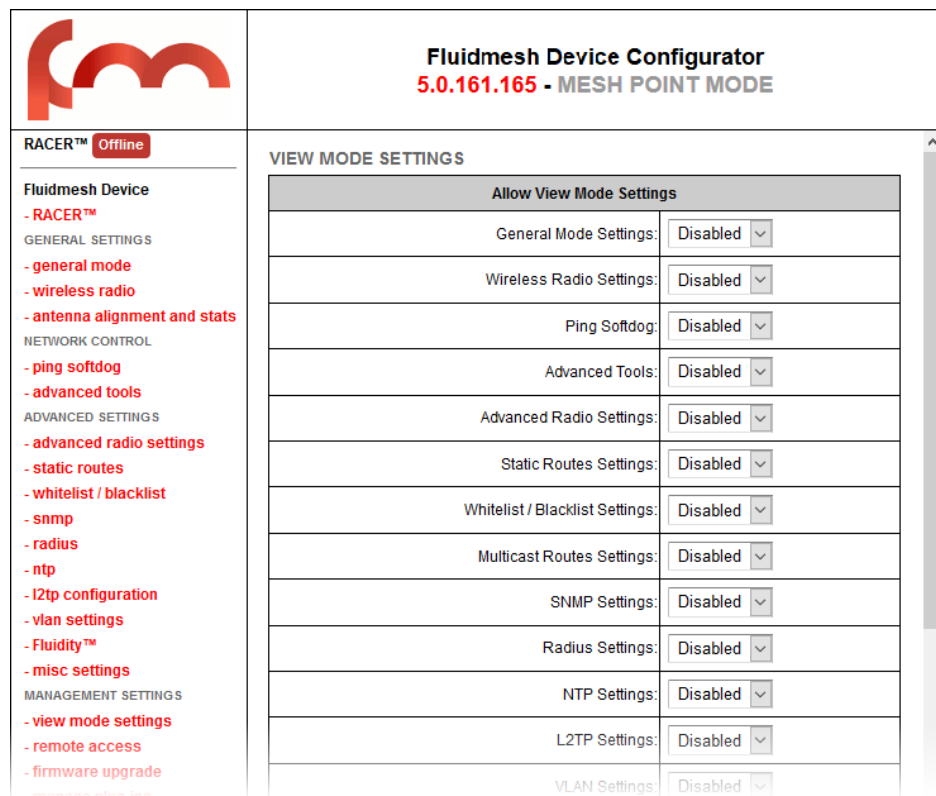

Figure 37. Configurator GUI (VIEW MODE SETTINGS dialog)
2. Click the **-view mode settings** link under **MANAGEMENT SETTINGS** in the left-hand settings menu (Figure 37 \(page 84\)).